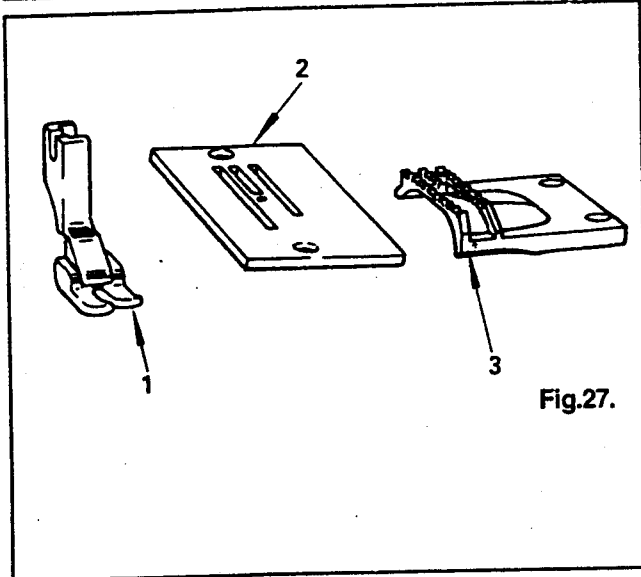

Fig.27.
Straight Stitch Presser Foot (1), Throat Plate (2) and Feed Dog (3) as shown in Fig.27, are used for straight stitching only.